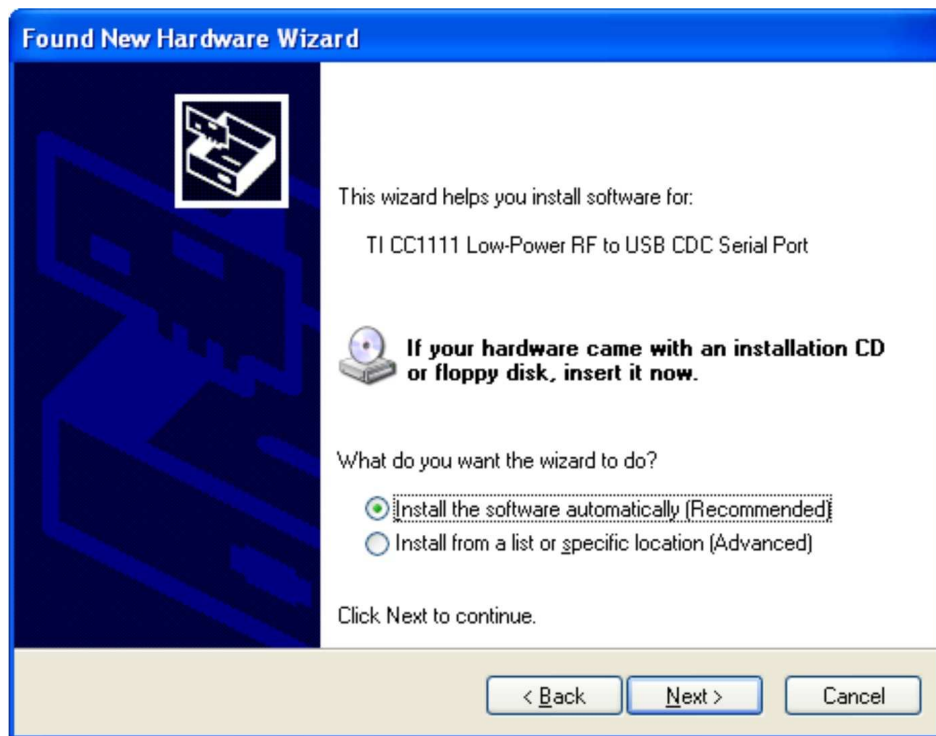

Figure B-5. Automatic Driver installation
- Select *Install the software automatically* in next dialog (see Figure B-5).